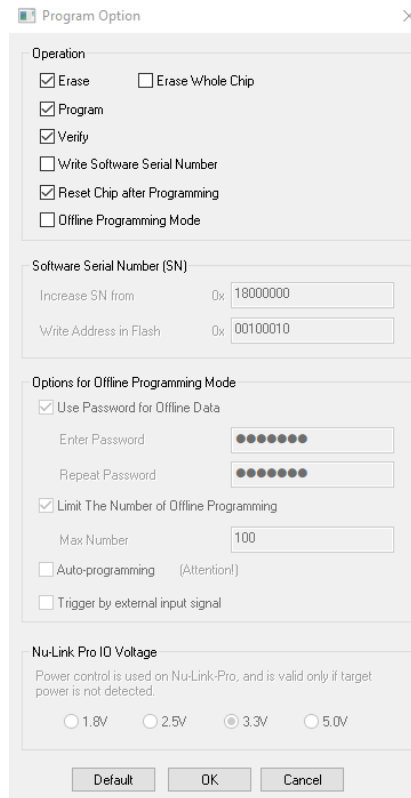

Figure 4-5 ICP Tool Programming Options
- Step 4: Click **Option** in the **Program** section of the *ICP Tool Window* to open the *Program Option* form, as shown in Figure 4-5.
- Step 5: In the **Nu-Link Pro IO Voltage** section, specify the power voltage of the SWD port for the target chip, and then click **OK**. To use the offline programming function, the Offline Programming mode option needs to be selected, as shown in Figure 4-5.